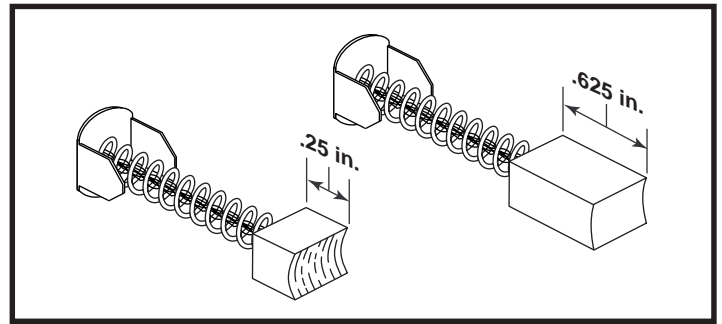

Figure 33. Motor Brushes
3. Remove the motor brushes from the left motor and inspect them for wear or damage. **See figure 33.**
- *If the motor brushes are not worn below 0.25 in. and are not physically damaged, then replace the left motor (9) and retest the system.*
3. Remove the motor brushes from the right motor and inspect them for wear or damage. **See figure 33.**
- *If the motor brushes are not worn below 0.25 in. and are not physically damaged, then replace the right motor (8) and retest the system.*